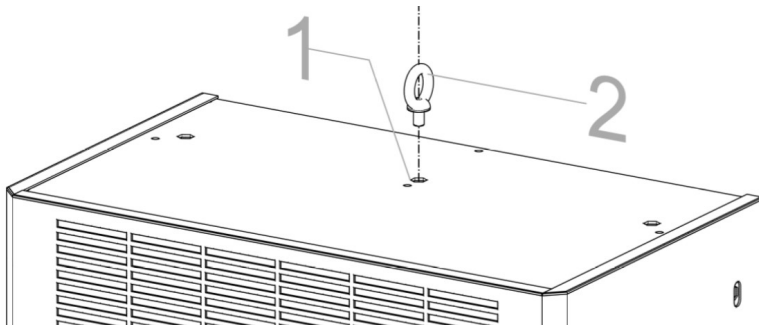

Fig. 5
The air conditioner handling, when unpacked, can be done thanks to lifting eye bolt. If lifting eye bolts are not included, please provide an adequate M6 male lifting eye bolt (2) and screw it inside blind threaded (1) insert placed on top of the air conditioner (Fig. 5).